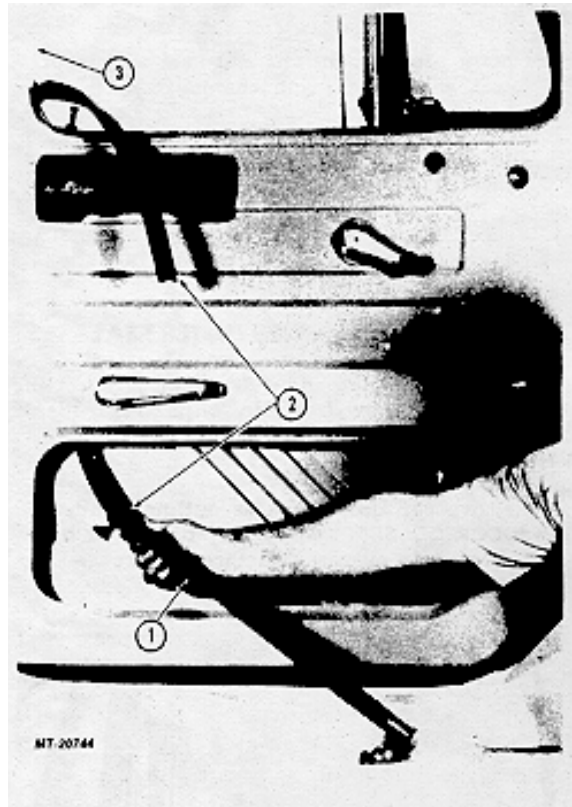

Fig. 15 Removing Rear Run Channel and Seal
2. Pry out channel seal from door window frame (Fig. 15).
3. Since rear run channel is already loosened as outlined under "DOOR GLASS", remove channel and seal through door access opening (Fig. 15).